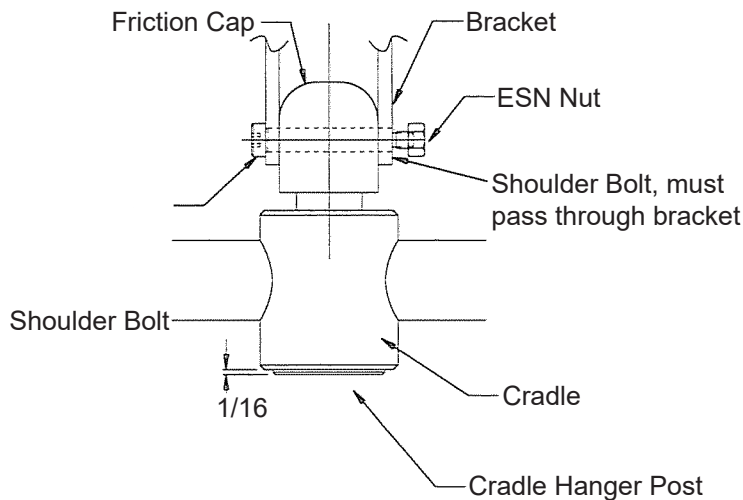
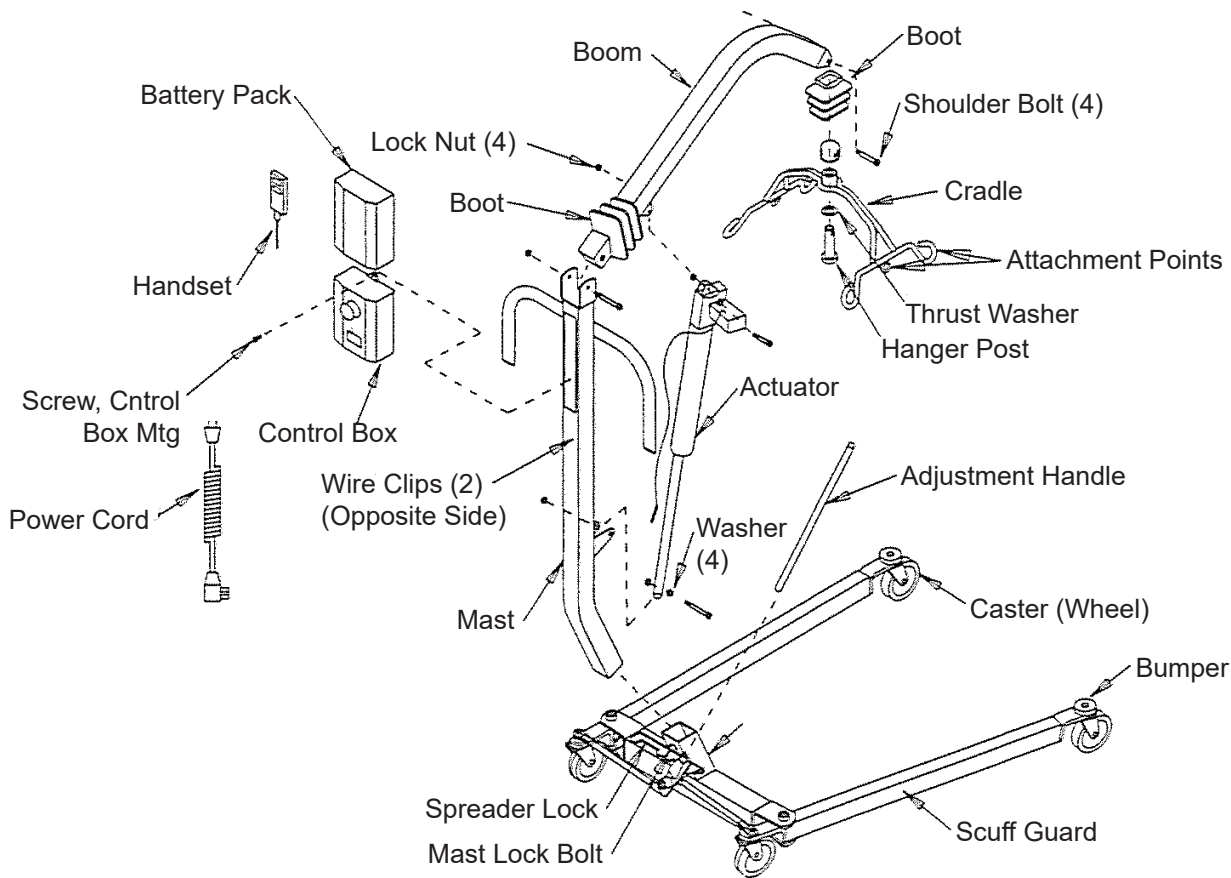

Figure 1
Figure 2
**⚠ Warning:** All shoulder bolts must engage through the bracket on both sides. If bolt is not fully engaged, misalignment and premature failure may result. Worn parts could fail, resulting in injury to patient/caregiver (Figure 1, page 3).
**⚠ Warning:** The large thrust washer must be inserted on the cradle hanger post (Figure 2). If washer is not present, the cradle hanger post and cradle center may wear prematurely. Worn cradle parts could fail, resulting in injury to resident/caregiver. Hanger post should protrude cradle center by 1/16th inch (Figure 1).
- Place base of lift on a hard even surface with the wheels contacting the surface. Insert the mast in sleeve of base making sure that it is fully engaged. Tighten the mask lock bolt (Figure 2). Keep mast locked at all times except while storing.
- Place adjustment handle into socket as shown (Figure 2). Pull adjustment handle back to unlock. Handle can be moved to the right to widen the base or to the left to narrow the base.
- Remove boom from filler and attach to top of mast with hardware as shown (Figure 2).
- Remove actuator from filler and attach top of actuator to mast and bottom to boom with hardware (Figure 2).
- Attach cradle to the end of boom with cap and hardware (Figure 2). Pull vinyl boot over connection, make sure middle rib is over hardware.